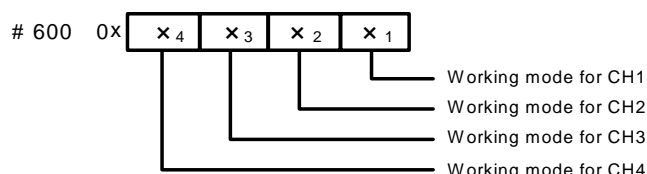

Figure 2-1 Mode setting element vs. channel
- BFM#600: channel mode setting, used to set the working modes of CH1 ~ CH4. See Figure 2-1 for their correspondence.